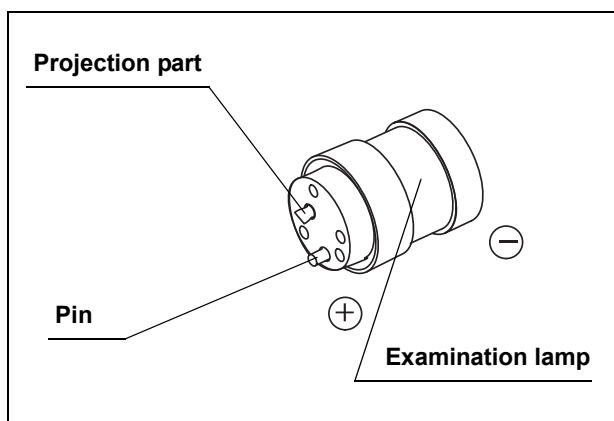

Figure 5.1
- When disposing of the used lamp, make sure to cut the projection part of the electrode on the “+” side of the examination lamp by using a nipper and discharge the internal gas (see Figure 5.1). Otherwise, the glass could break due to the high internal pressure of the lamp.